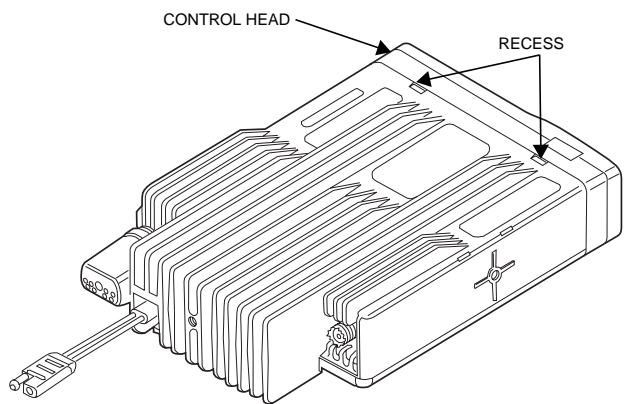

Figure 6-1. Control Head Removal
2. Insert a small flat blade screw driver, or similar, in the recess between the control head and the chassis. Refer to Figure 6-1.